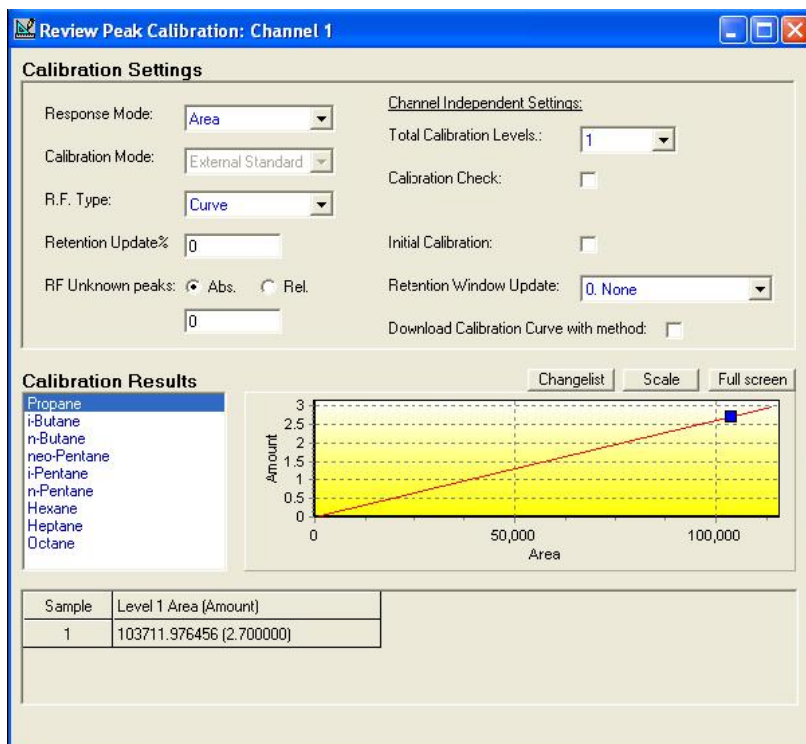

Figure 52: Peak Calibration window containing the calibration curve for the selected peak.
- After the run is completed, the method containing the updated calibration curve (Calibration window) and calibration curve coefficients (Peak Identification/Calibration table) will be uploaded automatically, see Figure 52 and Figure 53.